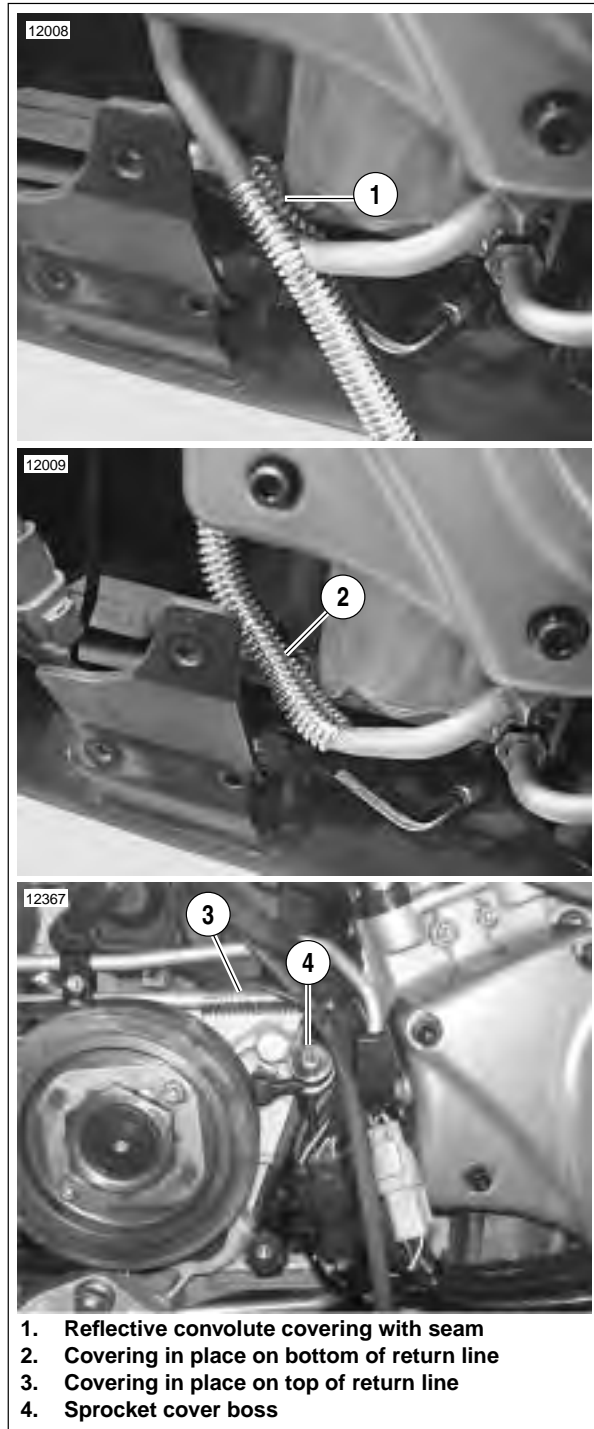

Figure 7-92. Convoluted Covering for Oil Return Line
- See Figure 7-92. Convolute covering the return oil line should have the seam rotated to the back side of the oil line away from wiring.